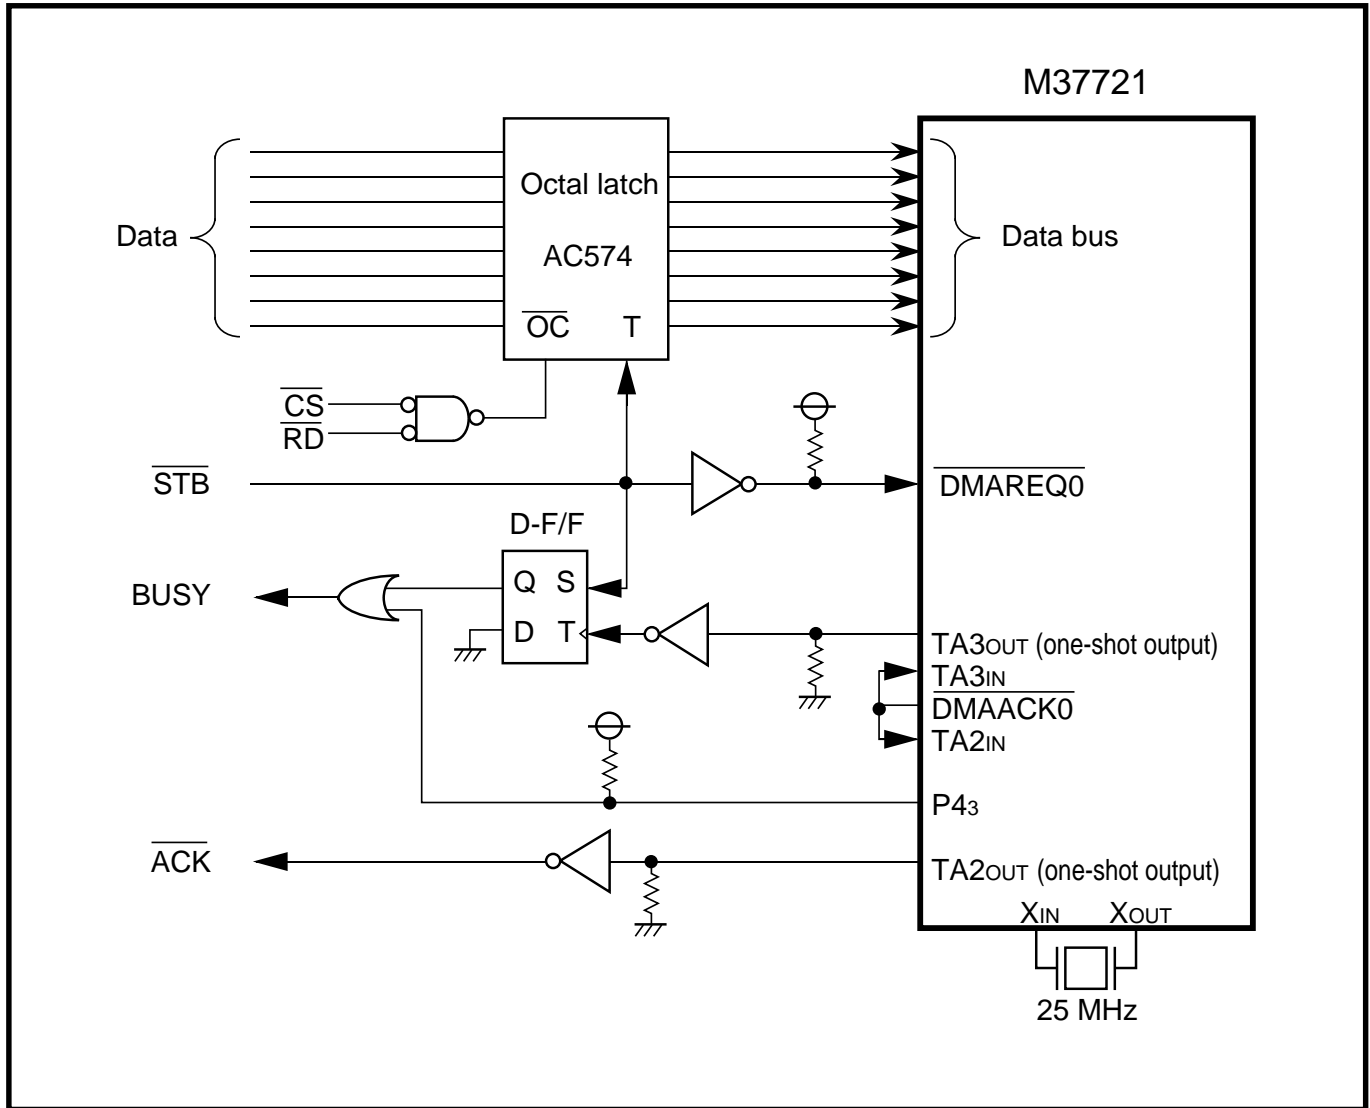

Fig. 16.2.1 Example of Centronics interface configuration
- Octal latch's contents are transferred to the data buffer (RAM) by using DMA0. The trigger is the  $\overline{\text{STB}}$  signal. (Refer to "**Figure 16.2.1.**")